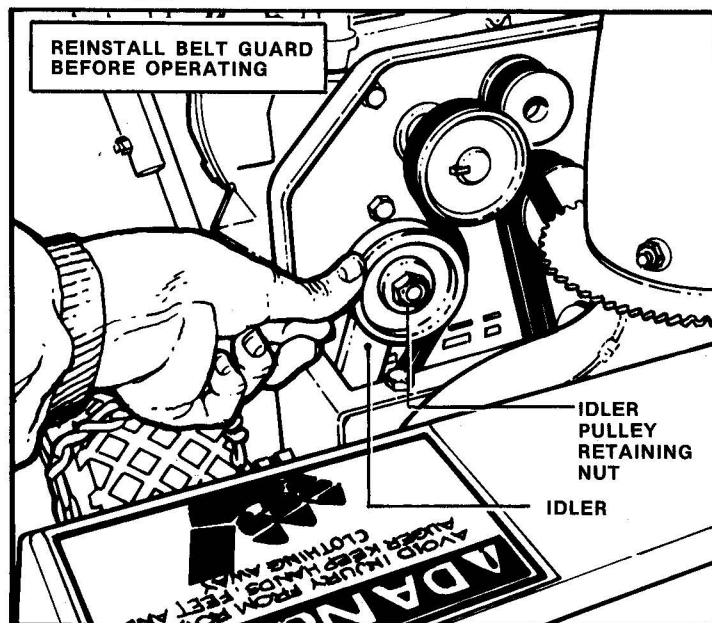

FIGURE 3.4
3.8 BELT TENSION: Tension on the traction drive belt is automatically maintained by an individual idler spring. After removing the belt guard and bottom cover, check to make sure this spring is intact and properly installed. If the spring is properly connected, check for excessively worn belts. Notice the return spring on the idler for the blower drive - this spring activates the brake. The idler should always return to braking position! Tension of the blower drive belt, which is on the $\frac{3}{4}$ dia. engine drive pulley, is adjusted by loosening and repositioning the idler pulley. To increase tension, loosen the idler pulley retaining nut, hold the idler arm and push the pulley tighter against the belt. See Figure 3.4. Retighten nut after repositioning and check for proper clutching action with blower clutch handle released. Tension of the traction belt on the inside groove is non-adjustable. Before reinstalling belt guard, check to make sure the belt guide on the right side is about $\frac{1}{16}$ " away from the outside surface of the blower belt with clutch engaged. Adjust the guide by loosening bolts and moving guide.